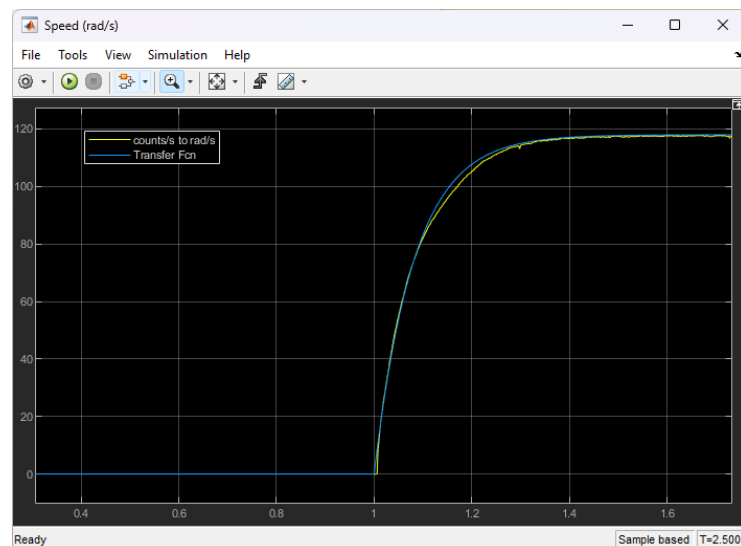

Figure 3. Sample QUBE-Servo 3 Measured and Simulated Speed Response
9. Build and run your QUARC controller. Look at the Speed Scope output to compare your derived model with the real output. Your output should look like figure 3 but across the 2.5 seconds the model ran for.